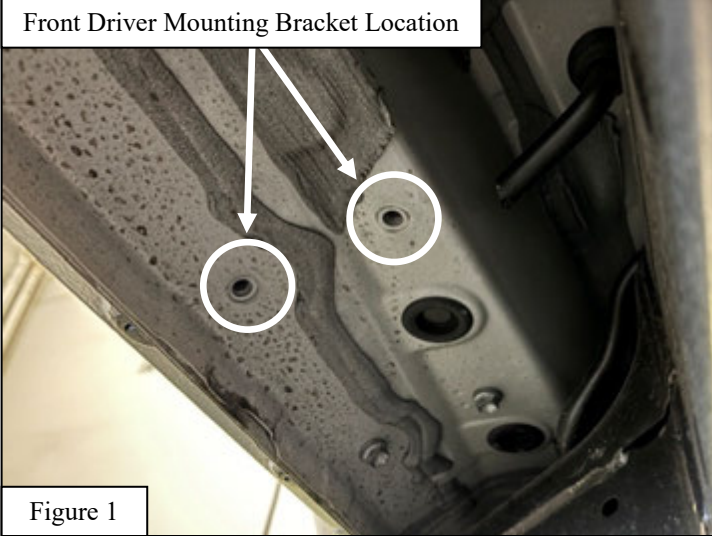

Figure 1
2. Locate the front mounting holes on the driver side of the vehicle and remove the factory bolts. See **Figure 1**.